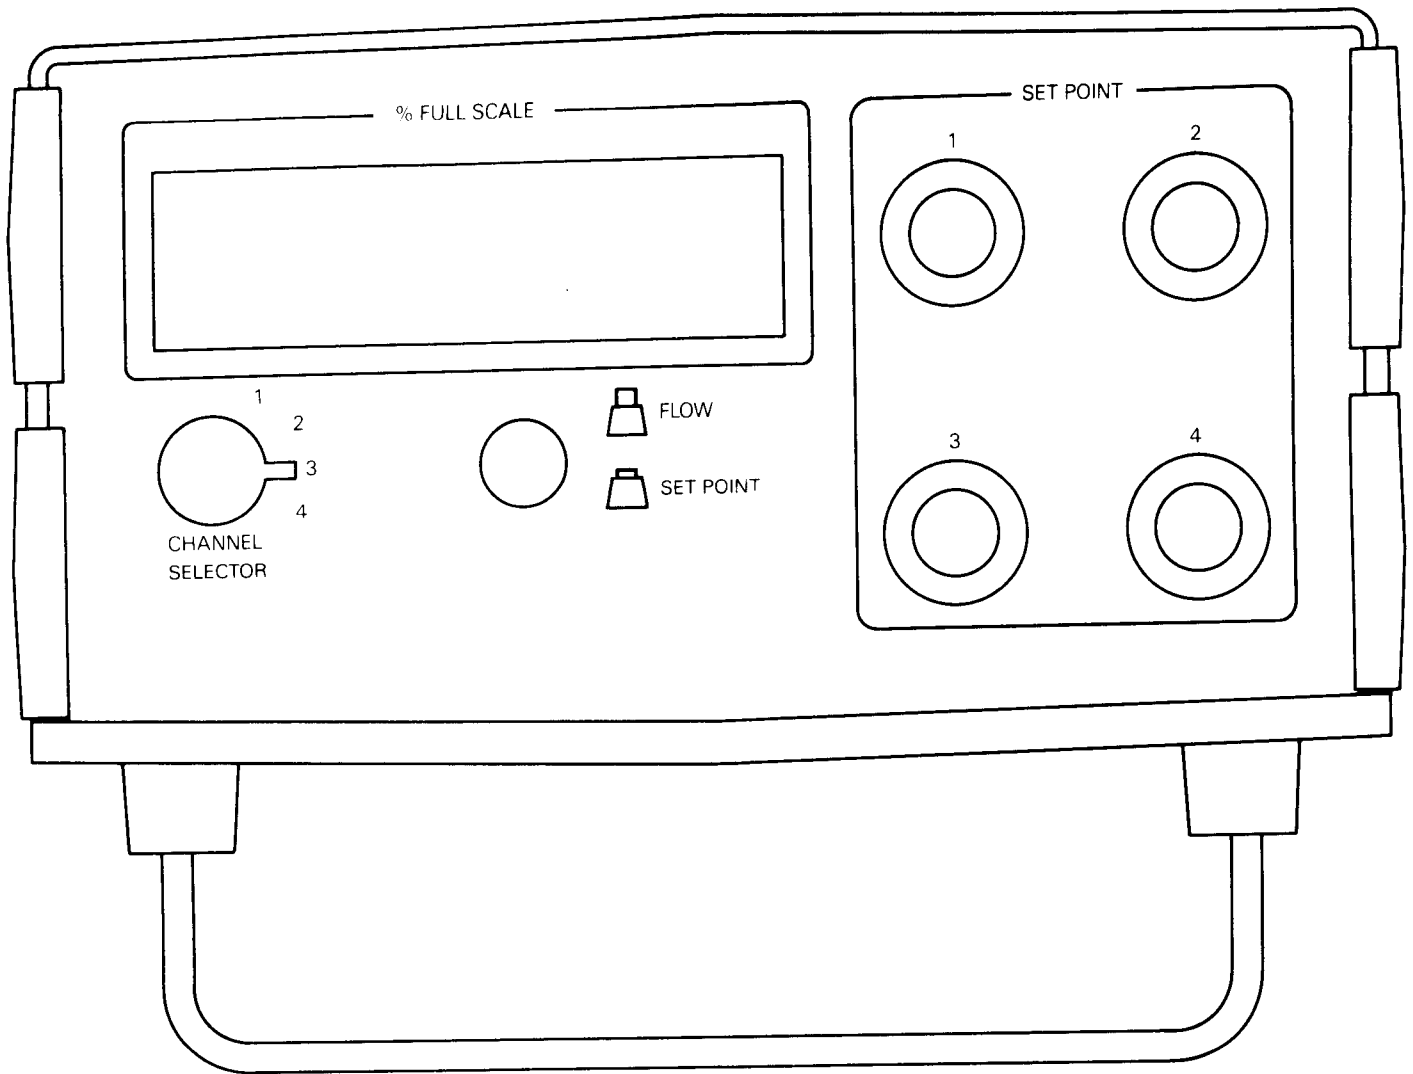

Figure 3-1. Front Panel Controls
2. Set the CHANNEL SELECTOR Switch (refer to Figure 3-1) to the desired channel and read the digital meter for the process flow signal's percent of full scale flow.